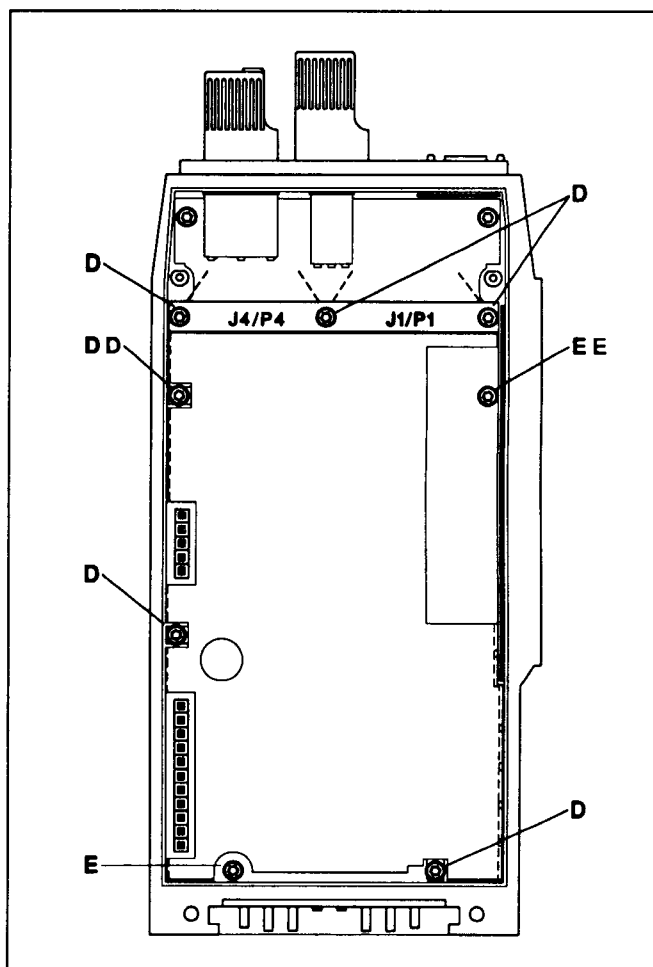

Figure 3 - Control Board Access
To gain partial access to the Control Board, remove the five (5) screws (D) securing the shield and board. An earlier Front Cover Assembly has an additional screw located just below connectors J4/P4 (DD). See Figure 3. Remove the shield.